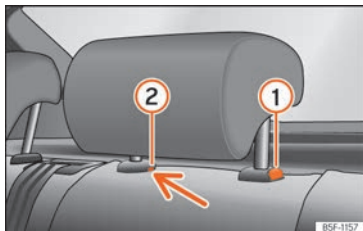

Fig. 122 Rear headrest: removal.
- Press button » **Fig. 122 ①**, while simultaneously pressing on the security hole **②** with a flat screwdriver a maximum of 5 mm wide, and remove the headrest.